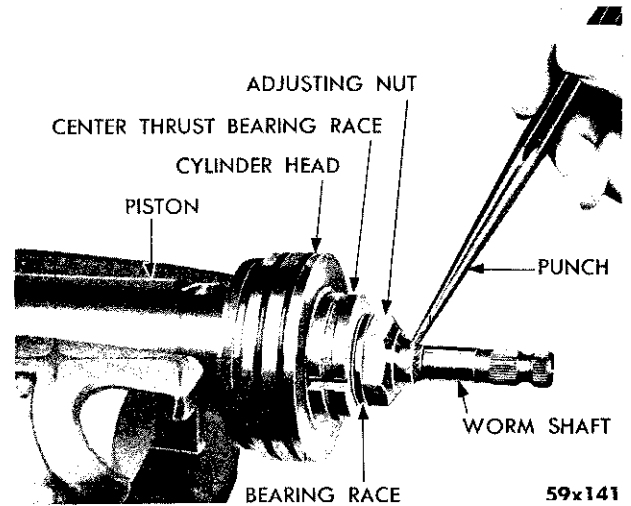

Fig. 43—Staking Worm Shaft Bearing Adjusting Nut
(6) Stake the upper part of the worm shaft adjusting nut into the knurled area of the shaft as follows:
- a. Hold a 1/4 inch flat end punch on the center line of the worm shaft and perpendicular to the worm shaft and at a slight angle to the nut flange (Fig. 43).